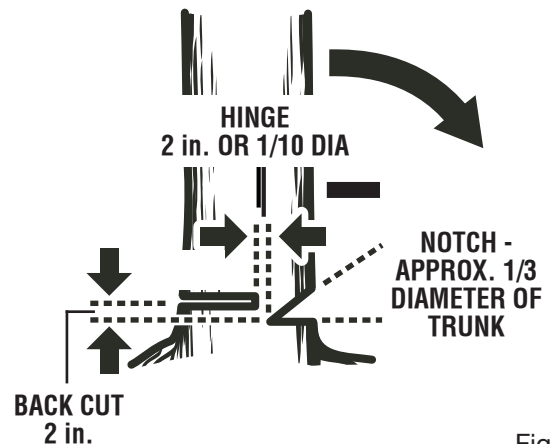

Fig. 14
- **Notched Undercut.** Cut a notch about $1/3$ the diameter of the tree, perpendicular to the direction of fall. Make the cuts of the notch so they intersect at a right angle to the line of fall. This notch should be cleaned out to leave a straight line. To keep the weight of the wood off the saw, always make the lower cut of the notch before the upper cut. *See Figure 14.*
- **Felling Backcut.** The backcut is always made level and horizontal, and at a minimum of 2 in. above the horizontal cut of the notch. See Figures 14 - 15.
- Never cut through to the notch. Always leave a band of wood between the notch and backcut (approximately 2 in. or 1/10 the diameter of the tree). This is called "hinge" or "hingewood." It controls the fall of the tree and prevents slipping or twisting or shoot-back of the tree off the stump. See Figures 14 - 15.